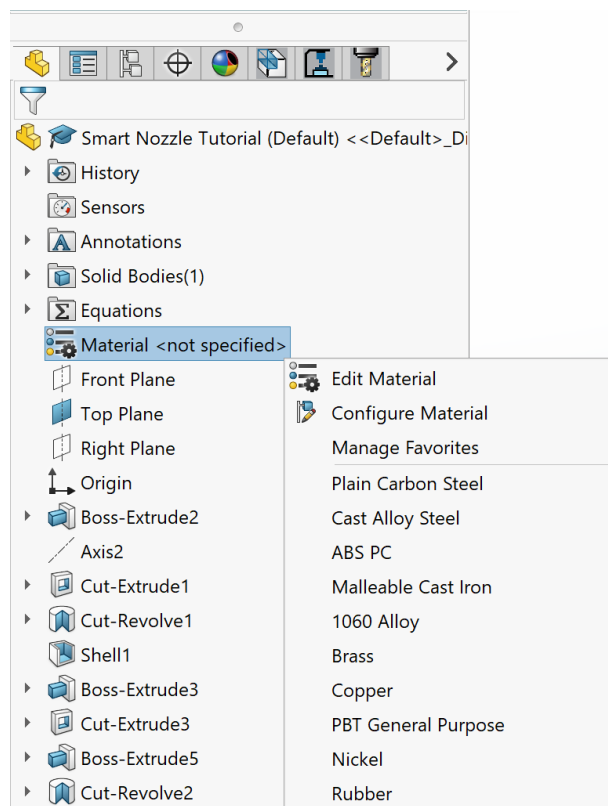
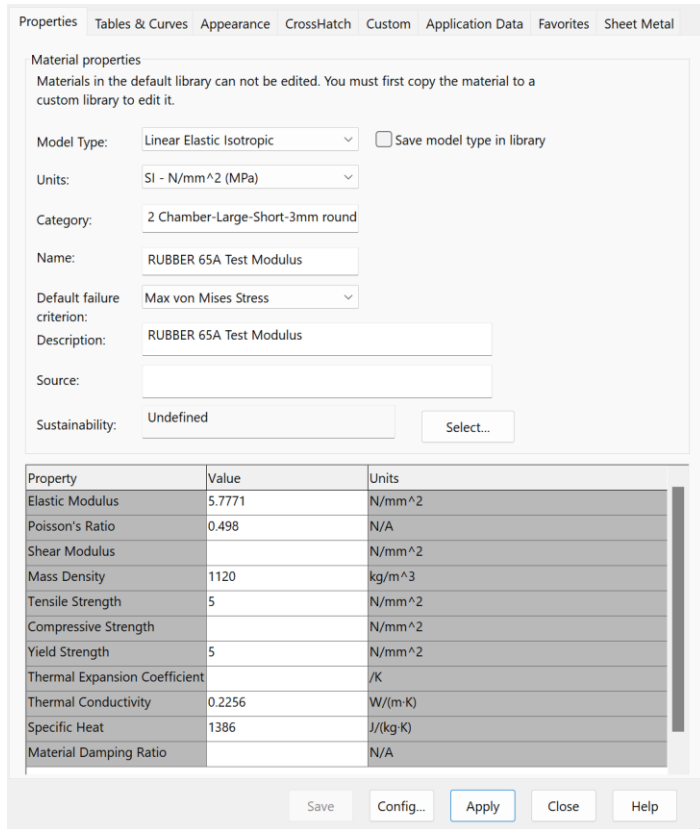
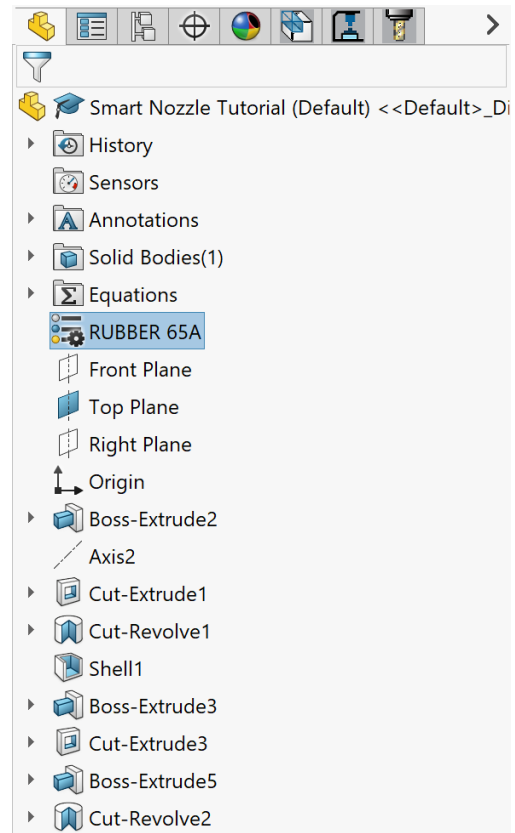

Figure 2: Finding “Edit Material” Menu
Figure 3: Rubber 65A Material Properties
Figure 4: Application Validation
- A. There are two places in which the material properties of the part can be set. The first of which can be found in the “Part” tab of FeatureManager. Right click on the “Material” menu and click edit material (Figure 2). Once the “Edit Material” menu has successfully been opened, you will see a whole host of material options but, the current material in use, Rubber 65A (R65A), will not be found. Thus, a new material must be created. To do so, when must model the new material off an existing material model. Any material can be chosen but this tutorial will select the “Silicone Rubber” material from the SW library, as it has some similarities to R65A. So, to begin, right click and copy “Silicone Rubber.” Once the material is copied, right click on “Custom Materials” and select new category. Name the category “Elastomers.” After the category has been created, you can then right click “Elastomers” and paste the “Silicone Rubber” material. Expand the “Elastomer” category and double click “Silicone Rubber” and change its name to “Rubber 65A.” At this time, the properties page of the rubber is visible and editable. Change the properties of the material to resemble those of Figure 3. When finished, click save and apply and the close out of the window. You can double check that you applied the material correctly by looking for where you originally clicked to in the FeatureManager and it should now say “Rubber 65A” (Figure 4).